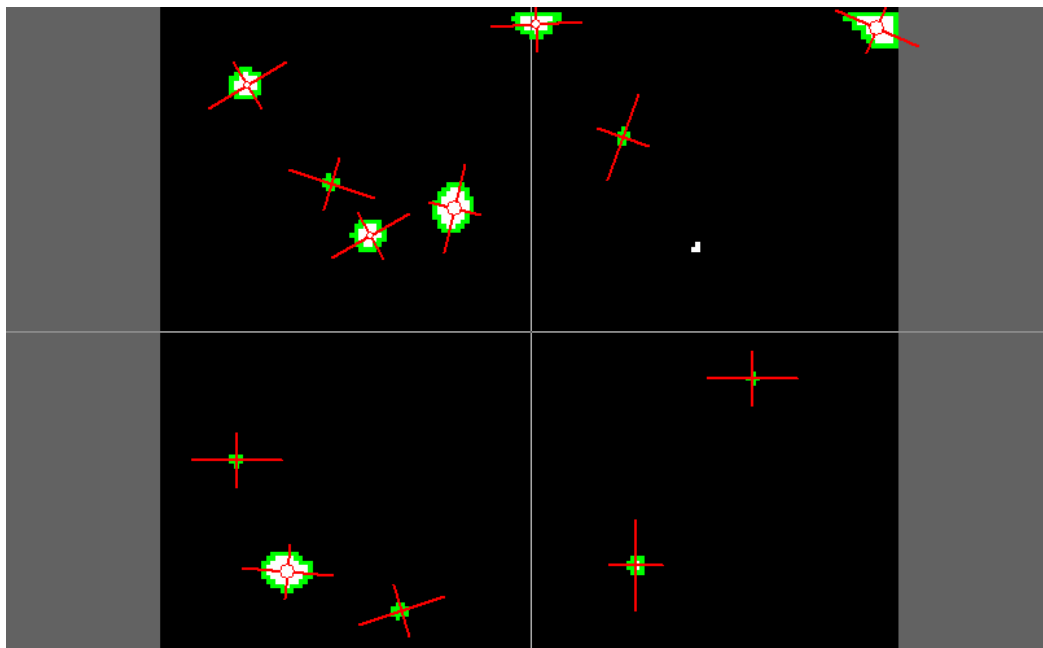

Figure 7:
18. As the video advances frame by frame, ProAnalyst will outline any particles that fall within its defined parameters as shown below in Figure 7.